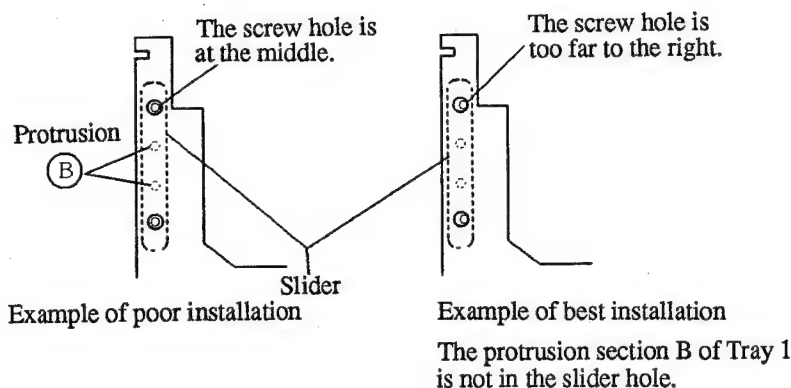

Figure 14
6. After double checking that the screw hole of the slider is positioned at the center of the screw hole of Tray 1 as shown in Figure 14, fasten with Screws C1 and C2 in that order.